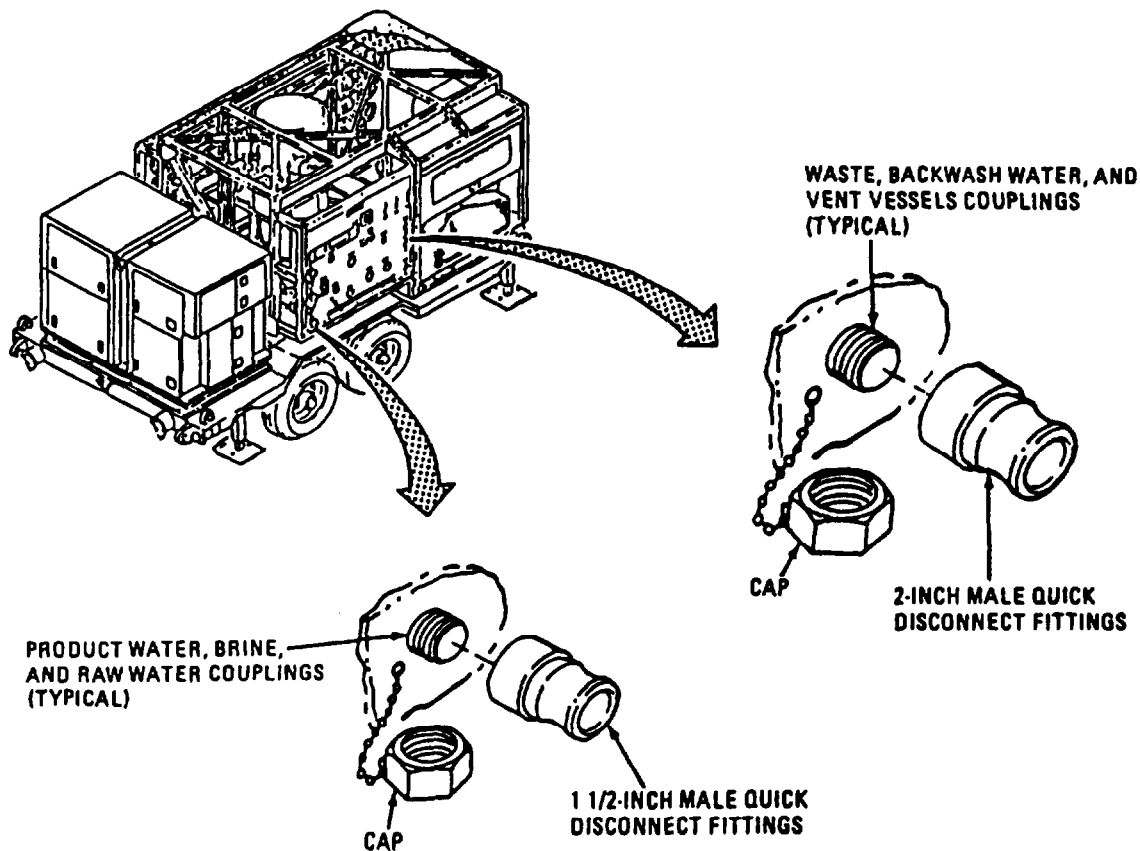

Figure 2-25. Control Panel Quick Disconnect Fittings.
- d. Install Control Panel Quick Disconnect Fittings. Refer to figure 2-25. Using pipe wrench from storage chest, install quick disconnect fittings and components as follows: